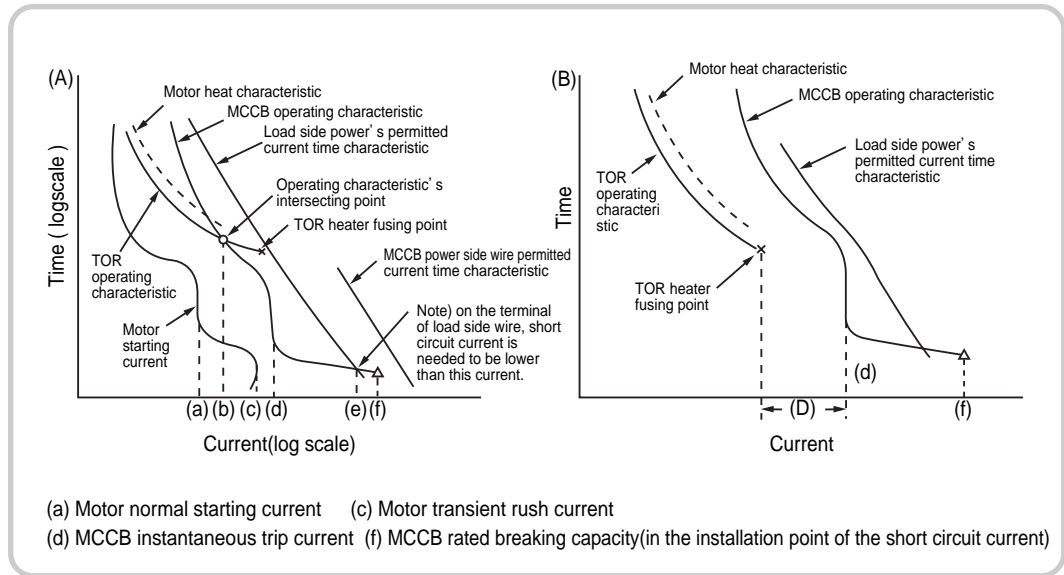
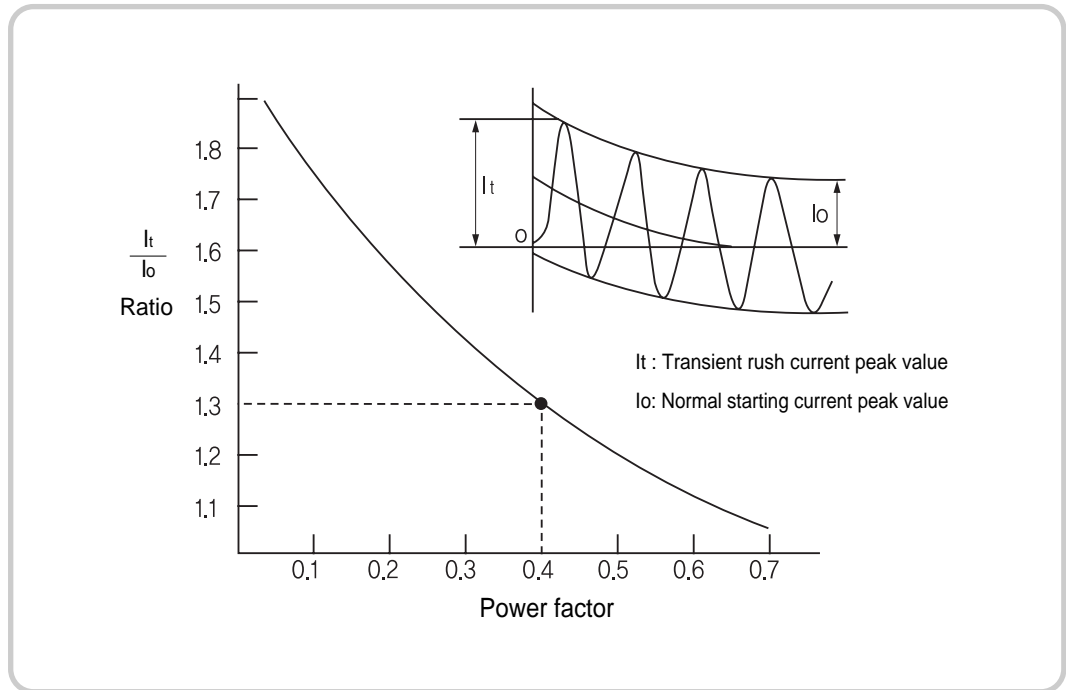
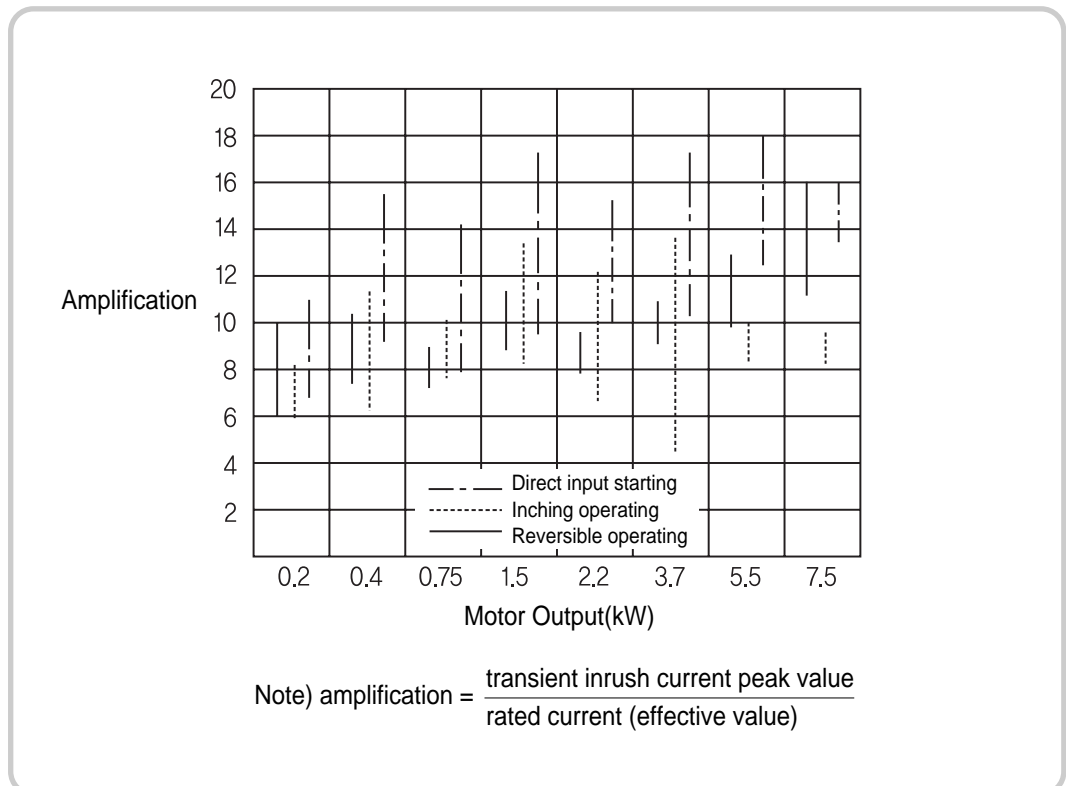
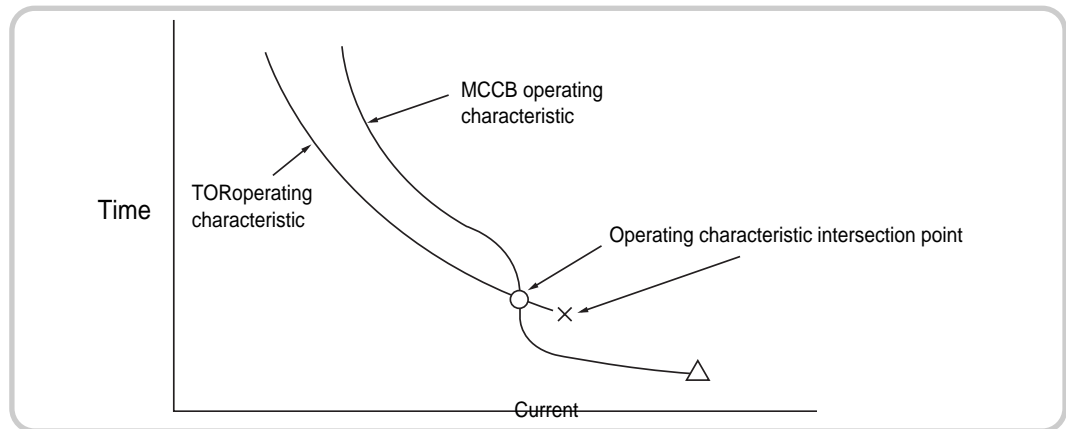

Fig. 64. Each characteristic's relation of protection cooperation
Fig. 66. Inrush current during motor's starting
Fig. 67. Amplification of motor's rated current and transient inrush current
Fig. 68. Intersecting point of breaker and thermal relay
Fig. 64 indicates the TOR's operation characteristic, the motor's heat characteristic and the motor's starting current but if each curve is same as fig. 64(A), the condition can be satisfied. This condition can be satisfied if in a modern (RC scale) TOR's selection the motor rated current is roughly the same as the heater set current.
There is a possibility of faulty operation by rush current during motor's starting. For a squirrel-cage motor, approximately 5~7 times the normal starting current flows during starting but because direct current overlaps during early starting (especially very beginning of semi cycle), an even bigger transient rush current flows and the amplification changes by a power factor as in fig. 66. When motor's starting power factor is 0.4 delay, it becomes about 1.3 times of normal starting current. Moreover if there is instant restarting (after power is off, restarting before motor stops spinning), at worst it reaches two times, in other words, 2.6 times of normal starting current from effect of residual current of motor. Fig. 67 shows actual measurement results from a real motor. Instantaneous trip time of MCCB is operated around a semi cycle so it is necessary to be cautious not to be operated with selected rush current. To prevent faulty operation from this rush current, check actual measurement result and set breaker's instantaneous trip current as 14 times of rated current. After deciding operation characteristic of magnetic switch and MCCB like this, it is a problem to make each characteristic's intersecting point. Fig. 64(A) indicates when the 7th item (p231) of protection cooperation condition is satisfied and fig. 64(B) indicates when it's not satisfied. In the case of fig. 64(B), because there is gap of protection cooperation, if the current of this range flows, the TOR's heater will be fused. TOR operating characteristic MCCB operating characteristic MCCB faulty operation
Also on fig64(A), when the intersecting point of the operation characteristic exceeds the magnetic switch's breaking capacity, even if TOR is operated, the magnetic switch becomes incapable of breaking and is damaged. So in the case of having an intersecting point of operation characteristic for protection cooperation, the 8th item(p231) of protection cooperation condition needs to be satisfied. It is desirable to satisfy the condition stated in this paragraph for protection cooperation but because this kind of current range is relatively narrow and the possibility of flowing is also very rare(the current of this range is mostly from motor winding ground and layer.), it can be neglected.
The intersecting point of the MCCB and the TOR's operation characteristics are not just on the breaker's inverse limit time characteristic range shown as fig. 64(A) but also on instantaneous trip range shown as fig. 68. In this case, if the magnetic contactor does not have any extra breaking capacity, it's possible for the intersecting point to exceed the magnetic contactor's breaking capacity. With consideration of this point, the Metasol series magnetic contactor has been made to have enough extra breaking capacity, and as shown on table 3, it is over 13 times of rated operational current below 440V. So even when operation characteristic's intersecting point is the same as fig. 68, maximum rated capacity can be selected for the motor so in the case of selecting protection cooperation, it is economically advantageous.